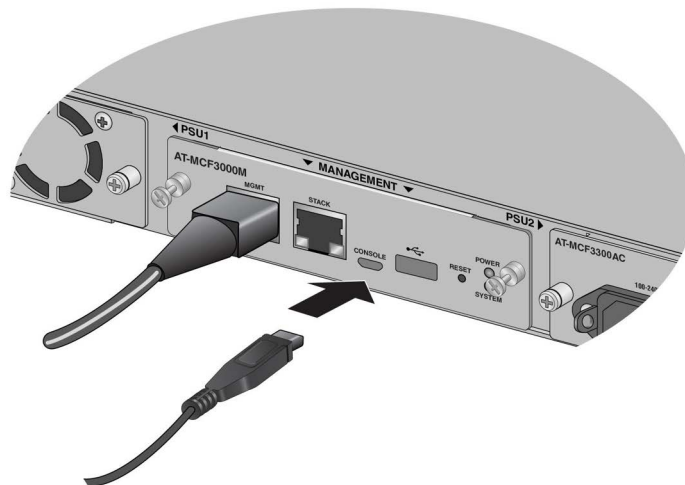

Figure 1. Connecting the Management Cable to the CONSOLE Port
1. Connect the micro-USB connector on the management cable to the CONSOLE port on the management module. Refer to Figure 1.